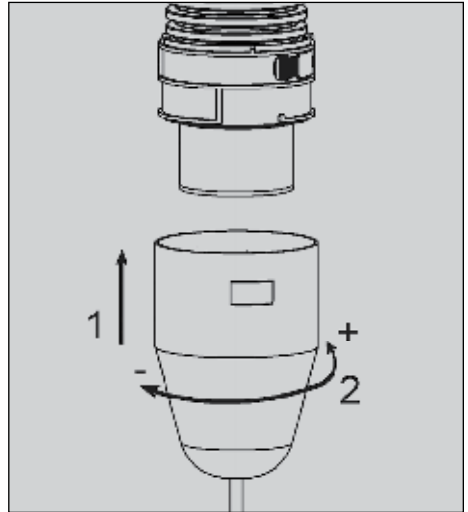

Figure 7, The Installing Aid
9. The installation aid must be connected using a bayonet connection with a rotating movement of $\frac{1}{4}$ turn to the right (+). Install the liner now from the top, see **Figure 7**.